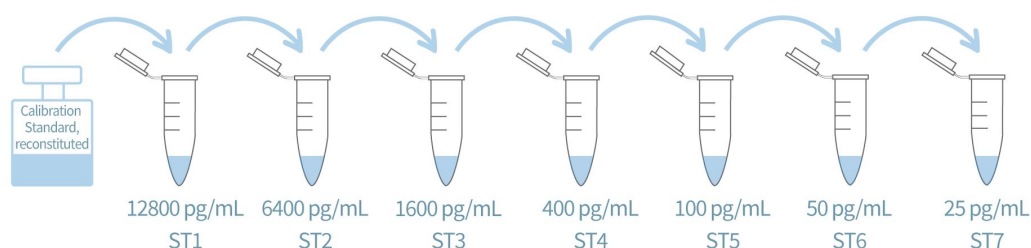

Figure 3. Graphic scheme of CHO PLBL-2 Calibration Standard Solutions
- Prepare CHO PLBL-2 Calibration Standard Solutions as shown in Fig 3 and Table 3.